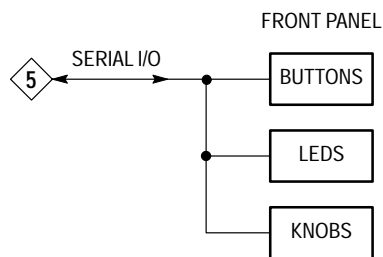

Figure 3–1: Front Panel board block diagram
A1U6 and A1U7 decode the button matrix so that the microprocessor can poll front-panel activity using the serial interface (see Figure 3–1). A1U4 and A1U9 control the front-panel LED display. A1U8 provides A/D conversion of the front-panel knobs. The front-panel settings for both gain and position provide input to the vertical and horizontal amplifiers.
**NOTE.** The diamond numbers that appear in the figures are references to the other block diagrams. The block diagram numbers appear at the end of the figure caption. For example, in Figure 3–1, the diamond number 5 appears in the block diagram. The circuitry that connects to the Front Panel board at the point indicated by the diamond number 5 is shown in block diagram 5 (Figure 3–5 on page 3–4).